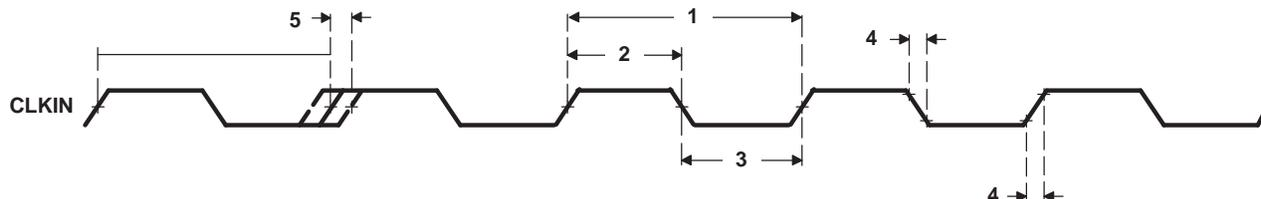

Figure 5-5. CLKIN Timing
### 5.1.1 Timing Requirements for CLKIN for –50xEP Devices(1) (2) (3) (see Figure 5-5)